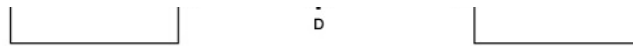

Figure 12. Set the reference
- a. Set the reference using the launch cord and first equipment cord attached to the light source (see Figure 12).